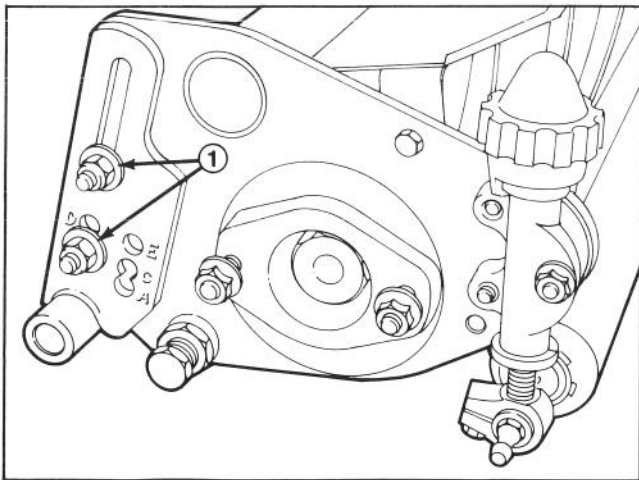

Figure 4
4. After positioning into correct height-of-cut hole position, install flatwashers and nuts and securely tighten the right hand rear roller bracket cap screws (Fig. 4).